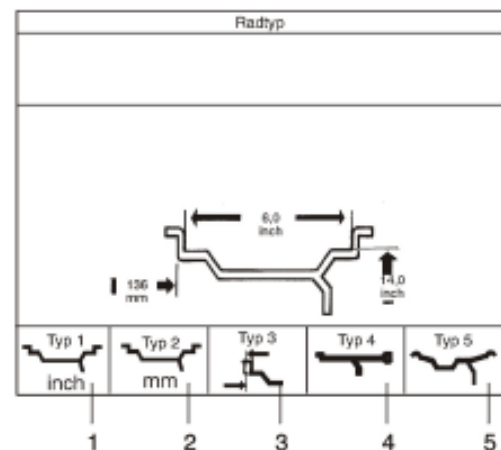

Fig. 25
- Starting from the screen as in Fig. 22 „Wheel data,„ press menu key 1 for –wheel type–. The screen as in **Fig. 25** „Wheel type,„ appears (wheel types are explained in Fig. 24).
- Choose the desired wheel type by pressing the relative menu key in the screen as in Fig. 25.